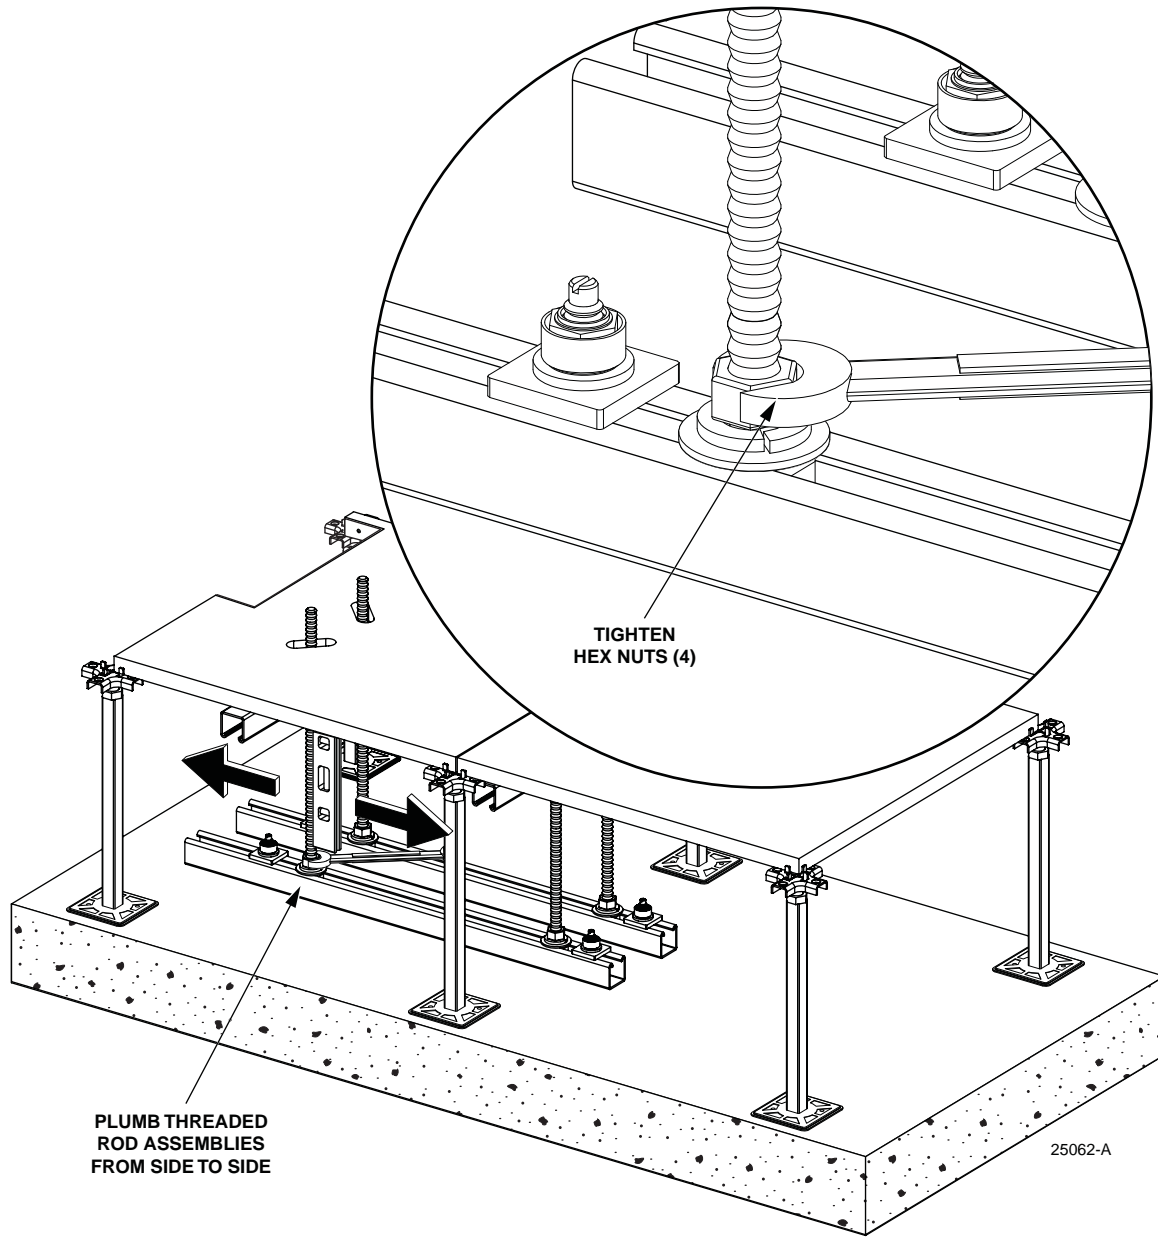

Figure 20. Plumbing Threaded Rods
19. Plumb threaded rod assemblies (4) and tighten hex nuts (4). Refer to Figure 20.